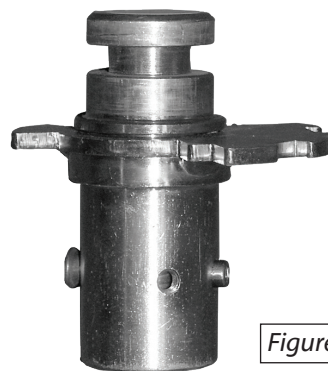

Figure 23-1
1. Remove the two flanged screws from the rooster. *[Figure 23-1] DO NOT REMOVE THE SINGLE SOCKET HEAD SCREW*